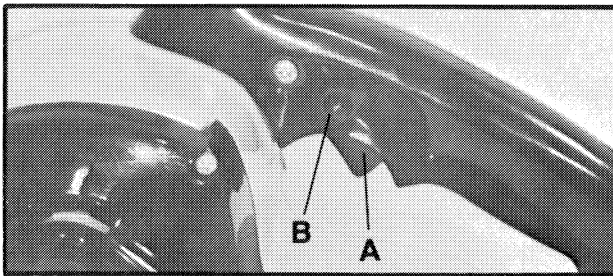

Fig. 3
To start the sander, squeeze the switch trigger (A) Fig. 3, into the handle. To stop the sander, release the trigger. A switch locking button (B) Fig. 3, is provided to keep the sander running without having to hold a finger on the switch trigger. This locking button is located on the left side of the handle. To engage locking button, squeeze switch trigger into handle, push in on locking button and, while holding button in, release trigger. To release locking button, squeeze trigger and release.